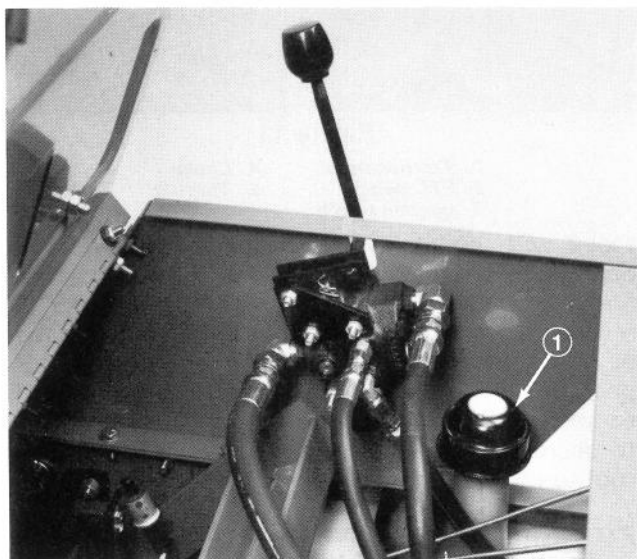

Figure 8
2. Remove dipstick cap (Fig. 8) from filler neck and wipe it with a clean rag. Insert dipstick cap